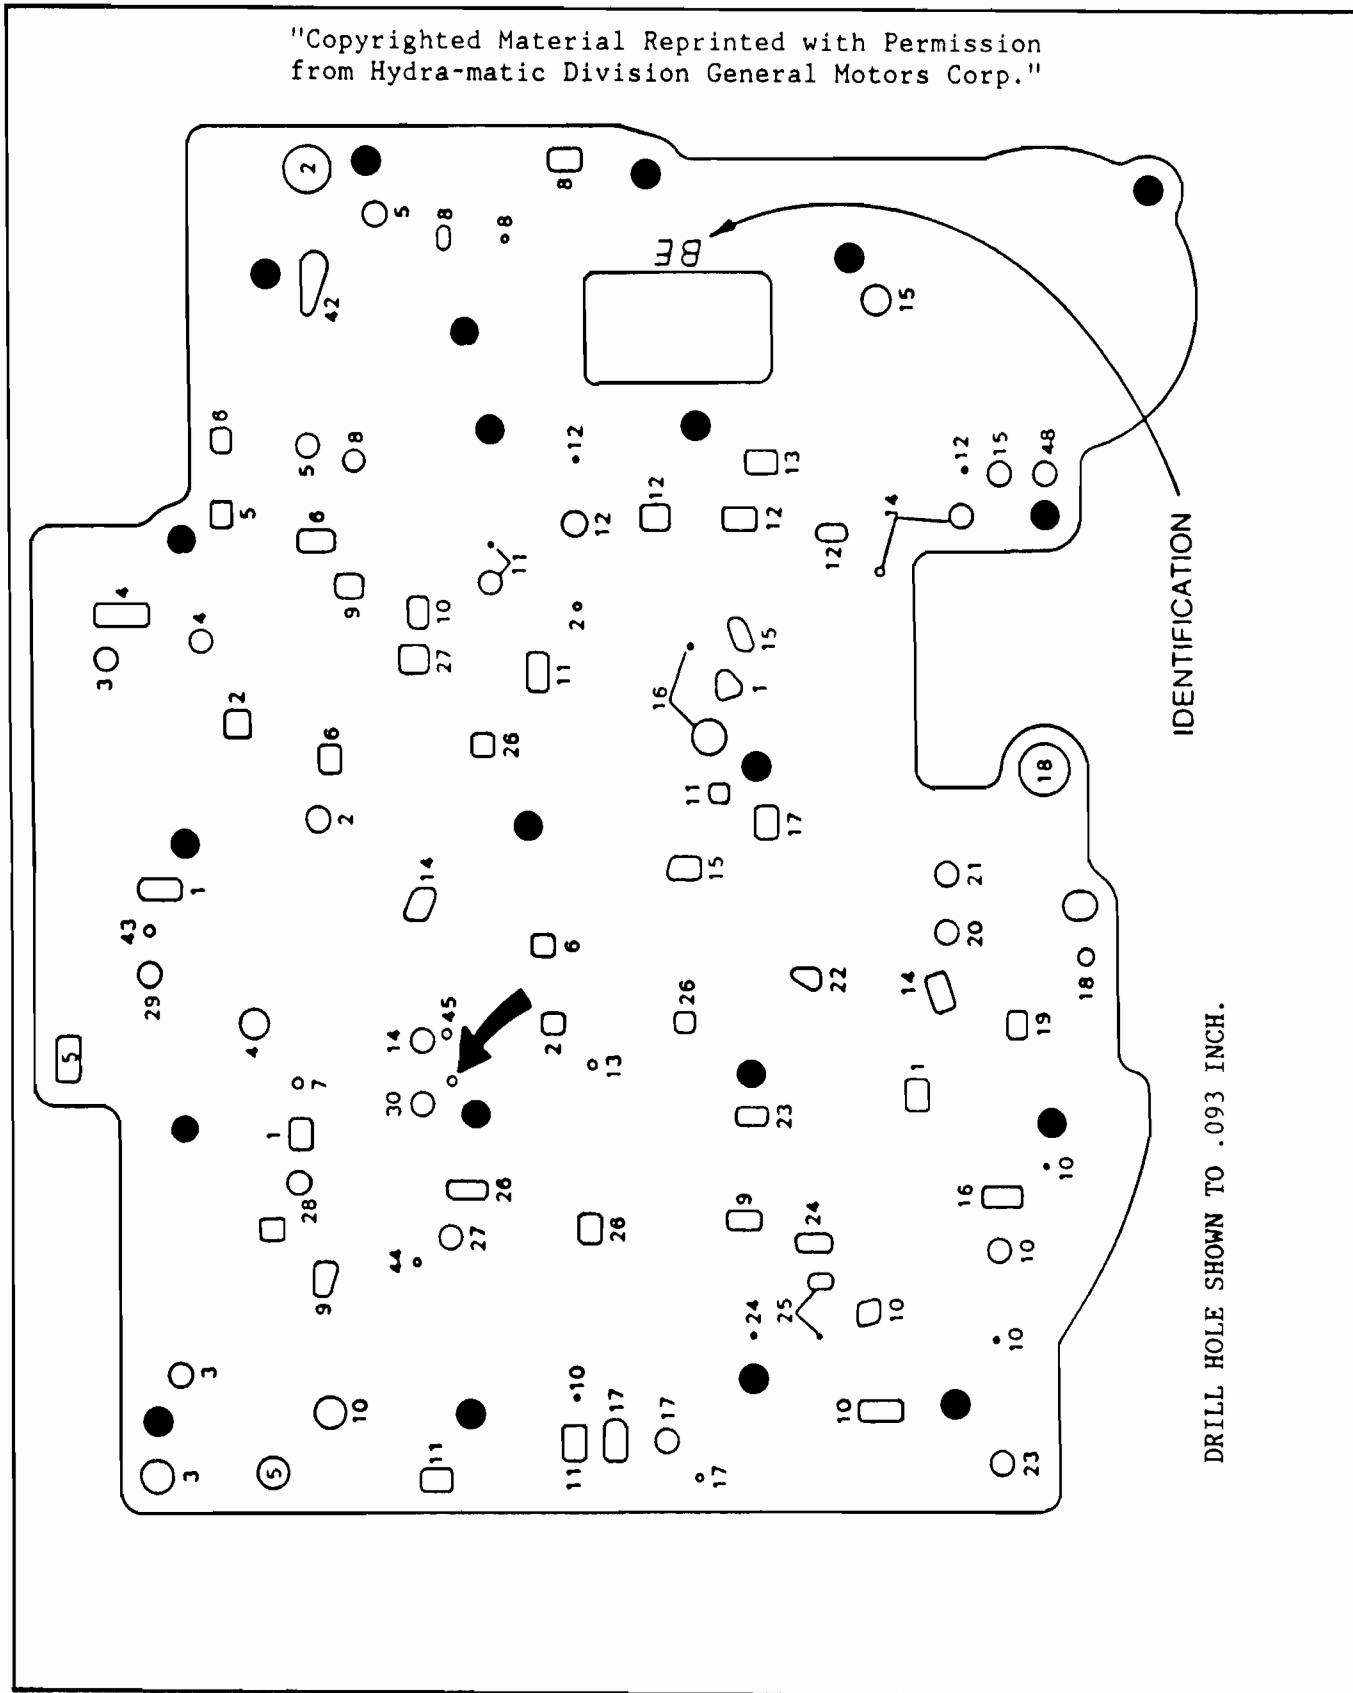

Figure 15
(2) Enlarge the 3rd clutch exhaust hole in the spacer plate to .093", as shown in Figure 15.